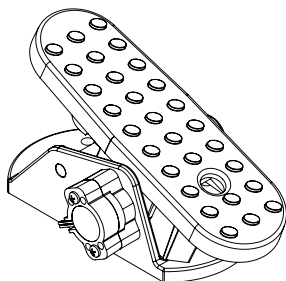

Figure 27. Blade Speed Control Foot Pedal
1. The foot pedal (Figure 27) solely controls blade speed (if cruise control is not enabled). The position of the foot pedal determines the blade speed. Slow blade speed is obtained by slightly pressing the pedal. Maximum blade speed is obtained by fully pressing the pedal.